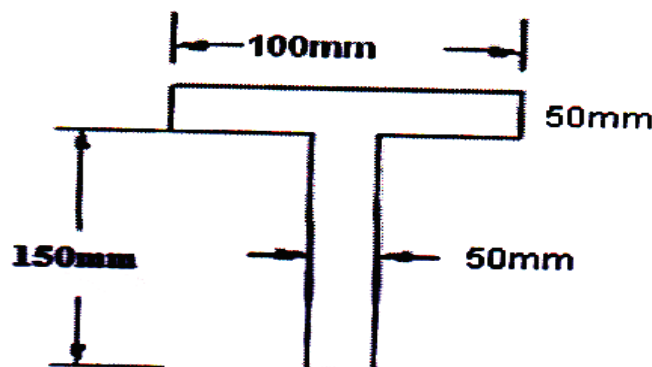

Figure 1.1
- b) A simply supported beam 7m span carries u.d.l. of 5kN/m over entire span. Find the maximum bending stress induced if the cross section is as shown in Fig. 1.1. [6]